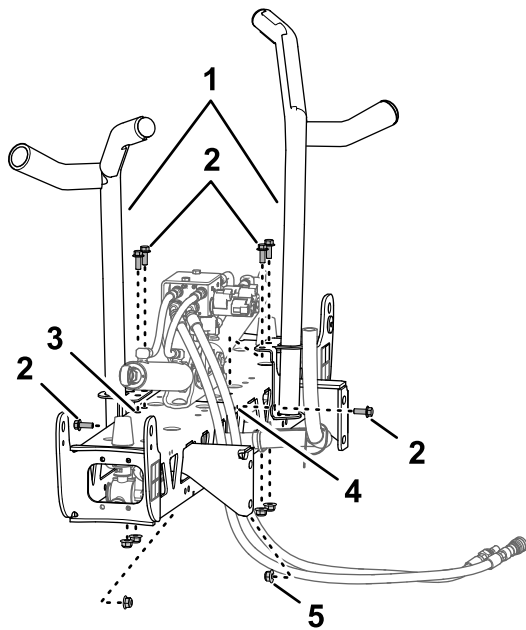
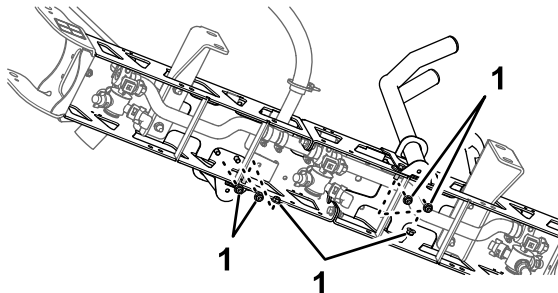

Figure 35
Figure 36
2. Align the boom transport cradles to the center boom section (Figure 35).
3. Assemble the cradles to the boom section (Figure 35 and Figure 36) with 6 bolts (3/8 x 1 inch) and 6 flanged locknuts (3/8 inch).